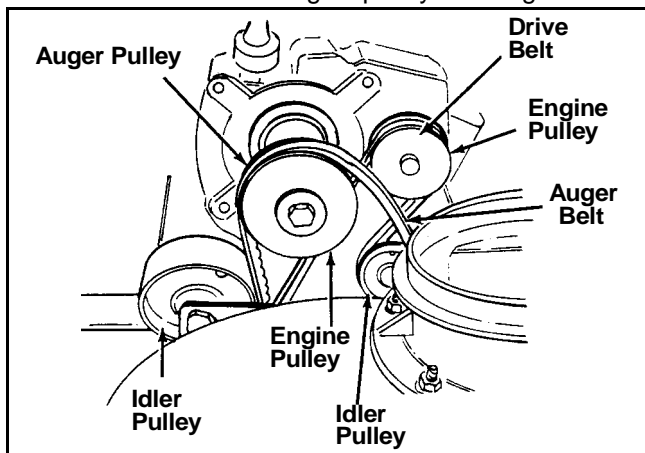

Figure 18
- Roll the belt off the engine pulley. See Figure 18.
- Pull idler pulley up, and lift belt off engine pulley and friction wheel disc. See Figure 18.